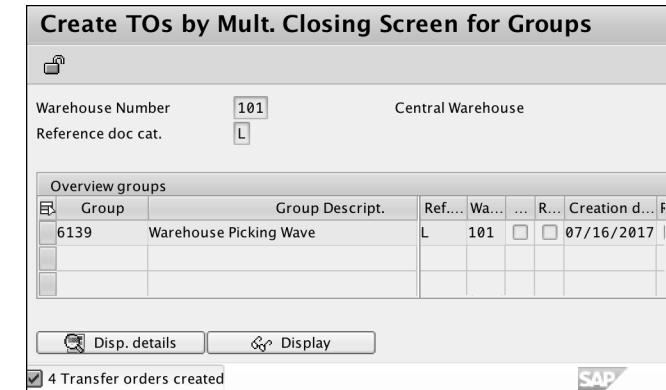

Figure 4.28 Create TOs by Mult. Closing Screen for Groups Screen
3. At the end of the background processing, you'll see the summary information, as shown in Figure 4.28. You can also display the list of transfer orders by clicking on the **Disp. details** button.